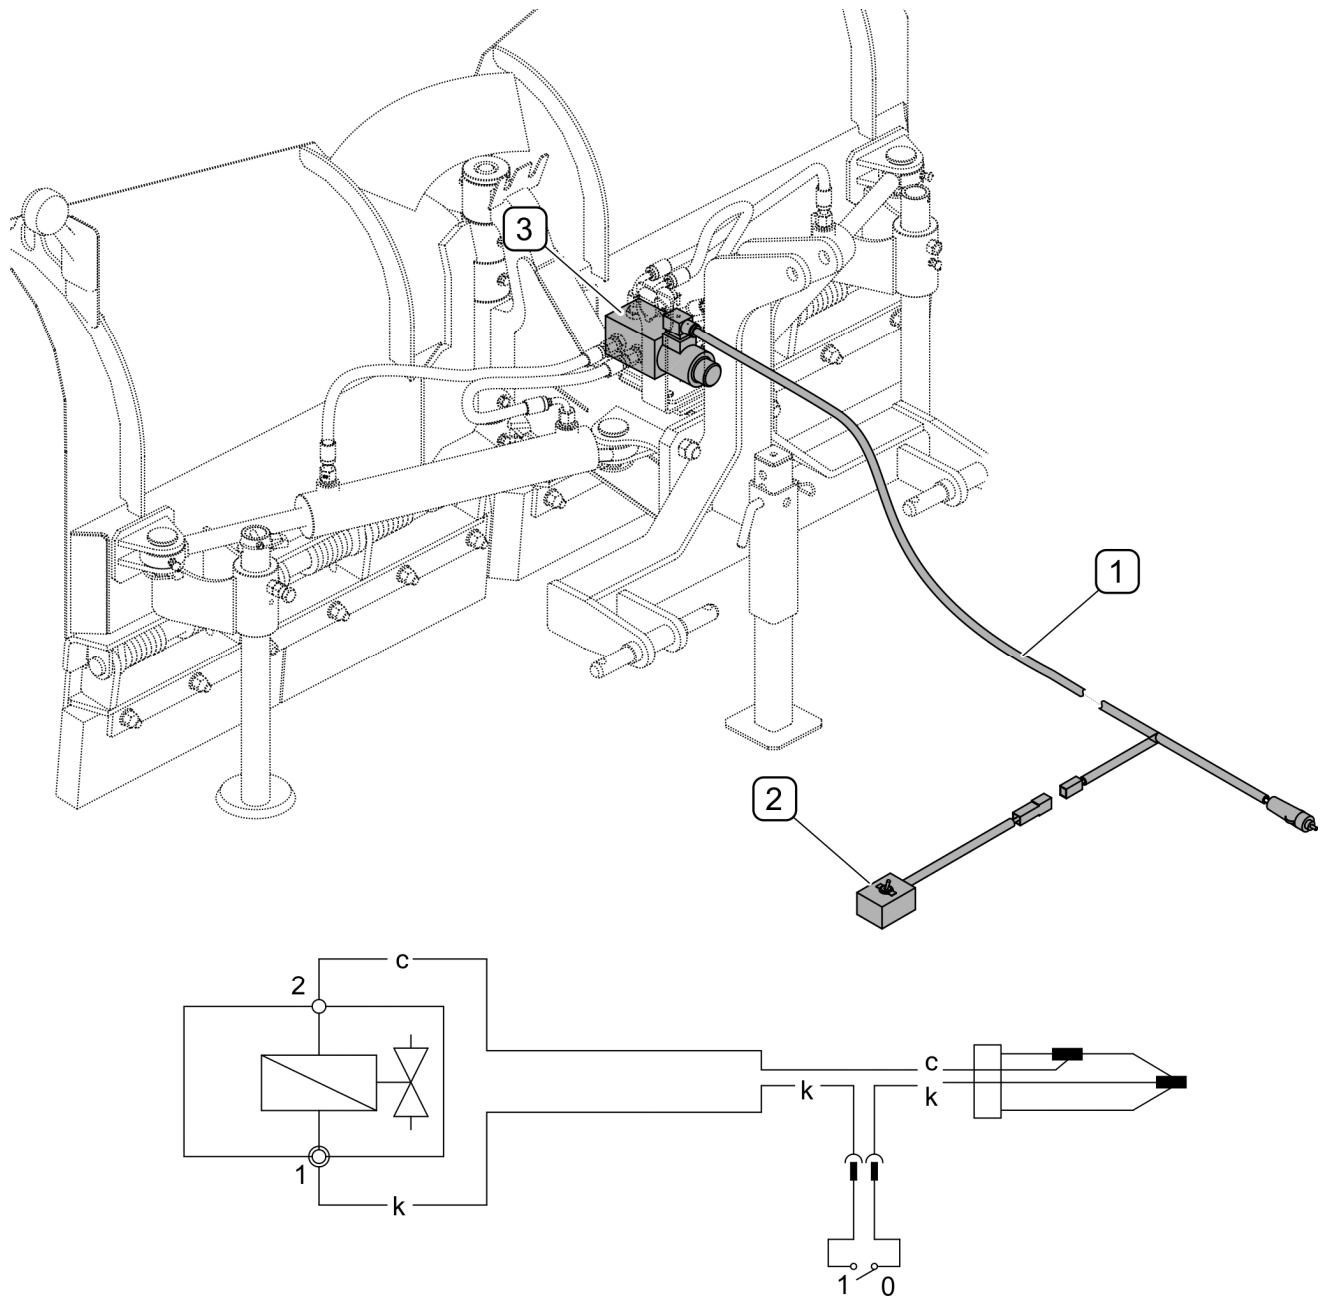

FIGURE 3.4 Design of solenoid valve electrical system
(1) - power cord; (2) - solenoid valve switch; (3) - hydraulic solenoid valve
The electrical system of the solenoid valve (FIGURE 3.4) consists of a power cord (1) with a cigarette lighter plug. The switch (2) controls the solenoid valve (3).